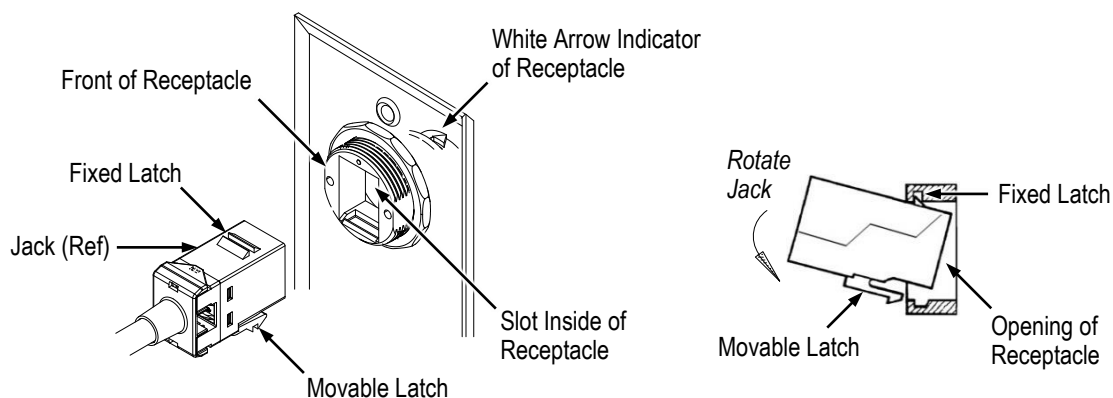

Figure 3
4. Refer to Figure 3, and insert the jack or coupler into the receptacle as follows: